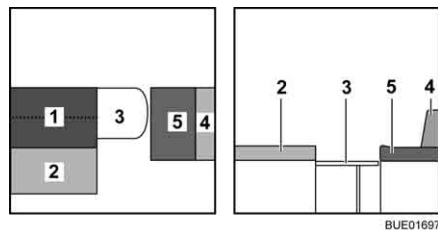

Fig. 130 During conversion
- Place the back cushion (Fig. 130,1) on the table.